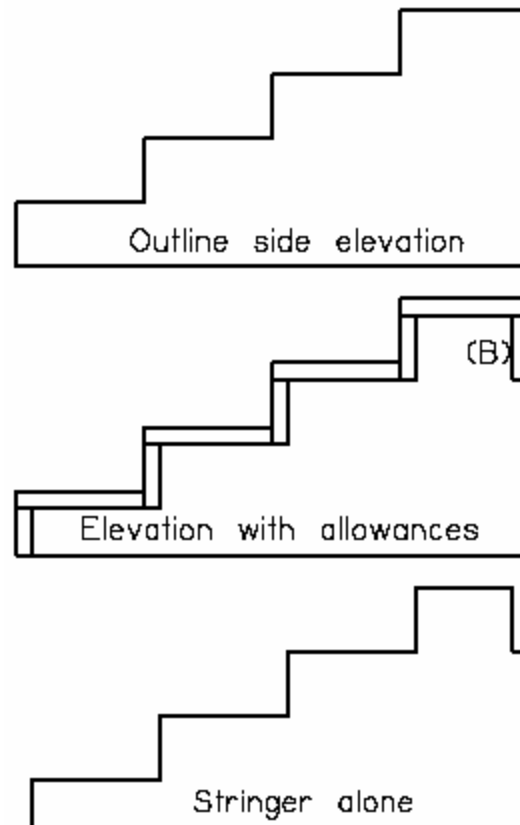

Fig. 8
Schuttner’s book tells how to figure the cuts you use to make your stringer, but there is an easier way, as Fig. 8 illustrates. First, draw the stair unit as viewed from the side. Enter the rise and run (not shown).
I want to build a three-step with a 7-1/2 inch rise and 10 inch run; the width will be 3 feet. My material is 3/4 inch (23/32 inch) CDX or sheathing grade plywood throughout, and I'll use drywall screws and glue to assemble the unit. I do want the blind riser (B) from Fig. 8.